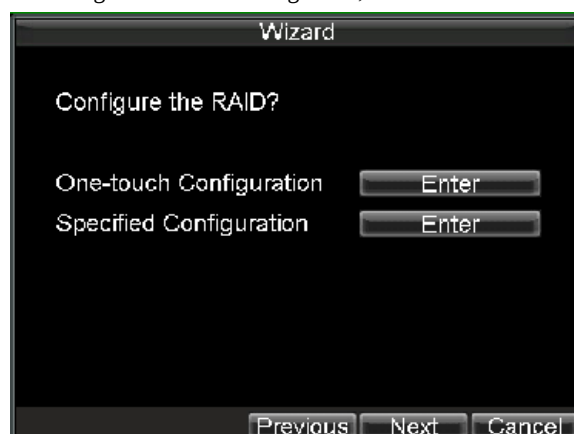

Figure 5. RAID Configuration
- 1) In the RAID Setup Wizard window, select the RAID configuration type to **One-touch Configuration** or **Specified Configuration**, shown in Figure 5.